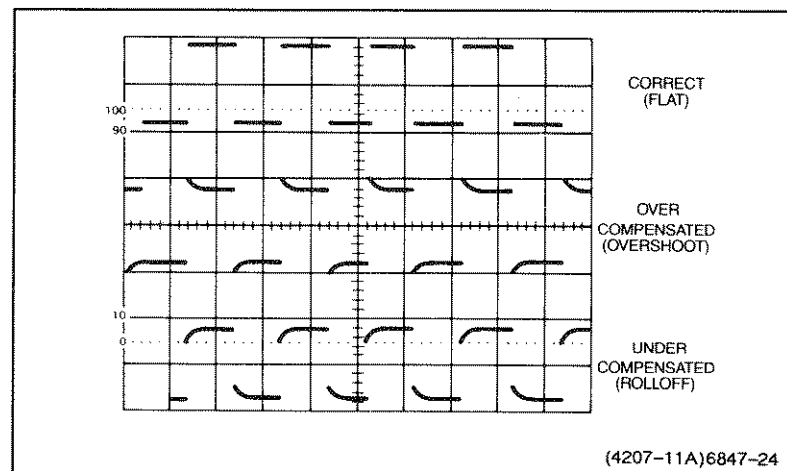

Figure 5-1. Probe compensation.
6. Check the waveform display for overshoot and rounding (see Figure 5-1). If the probe needs to be compensated, use a small-bladed screwdriver or alignment tool to adjust for a square front corner on the waveform.
11. Check the waveform display for overshoot and rounding (see Figure 5-1). If compensation is needed, use a small-bladed screwdriver or alignment tool to adjust for a square front on the waveform.